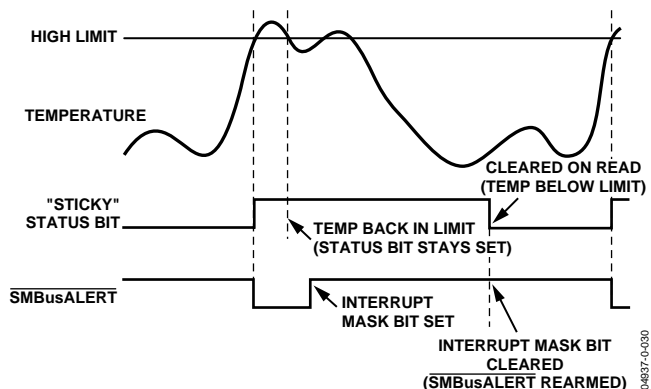

Figure 32. Handling $\overline{\text{SMBusALERT}}$ s
7. Periodically poll the status register. If the interrupt status bit has cleared, reset the corresponding interrupt mask bit to 0. This causes the $\overline{\text{SMBusALERT}}$ output and status bits to behave as shown in Figure 32.